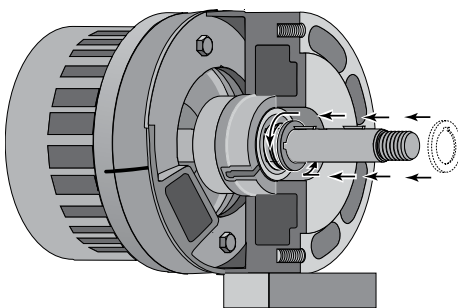

Figure 24
- Step 6. Push the shaft seal and seal spring onto the shaft, after making sure that the seal faces and shaft are clean. *Take care that the shaft shoulder does not damage the carbon seal face.* Follow the seal spring with the spring holder; compress the spring and give the spring holder a quarter turn to lock it under the first shaft key (see Figure 24).